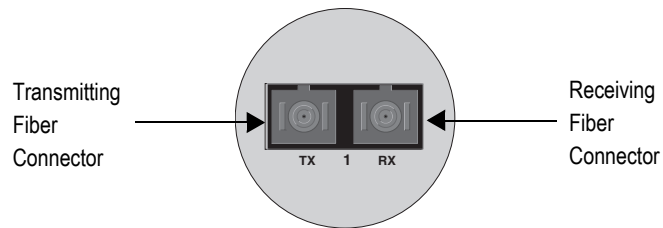

Figure 10. SC Ports
- The fiber optic port has two SC connectors, as shown in Figure 10 on page 42. Each connects to a separate fiber strand. One is for receiving data and the other is for transmitting data. When connecting a fiber optic cable to the port, be sure that the receiver fiber connector is connected to the transmitter connector on the remote end-node, and the transmitter fiber connector is connected to the receiver connector on the remote node.